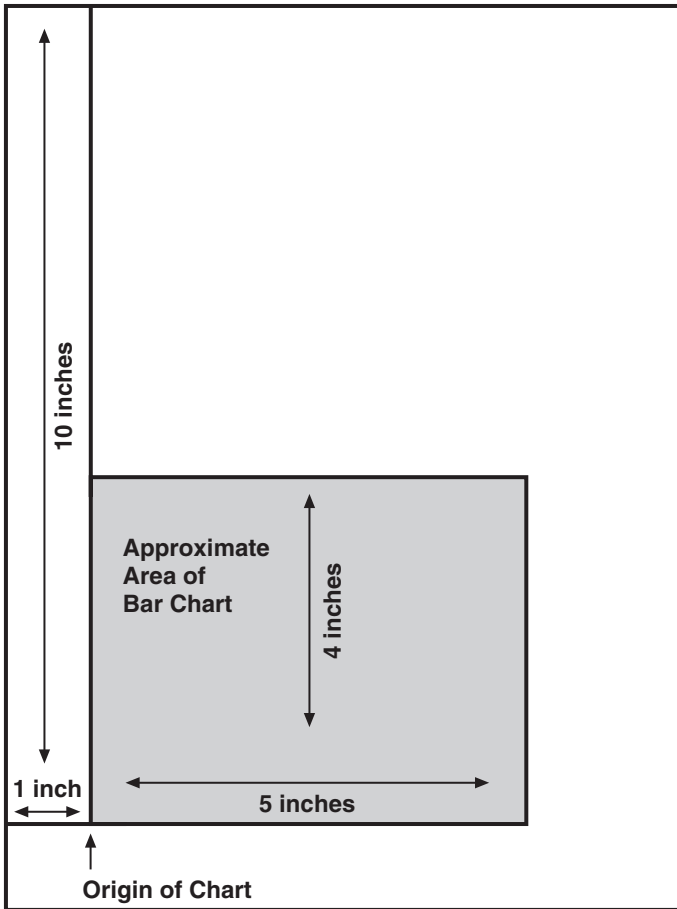

Figure 7-19. Placement of the bar chart.
3. Determine where the chart should be placed (always in relation to the top left-hand corner of the printable area). In the example, the bar chart is on the bottom half of a letter-size page. The origin of the chart is one inch away from the left margin and 10 inches away from the top margin, as shown in Figure 7-19.